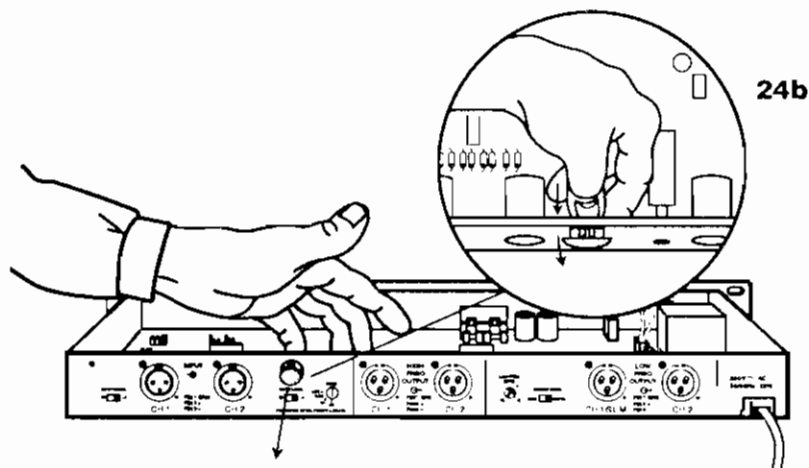

Figure 24
4. Find the plastic plug in the controller rear panel (Figure 24). Pinch the top lock tab and push the plug partially out (Figure 24b). Release the tab and pull the plug the rest of the way out.